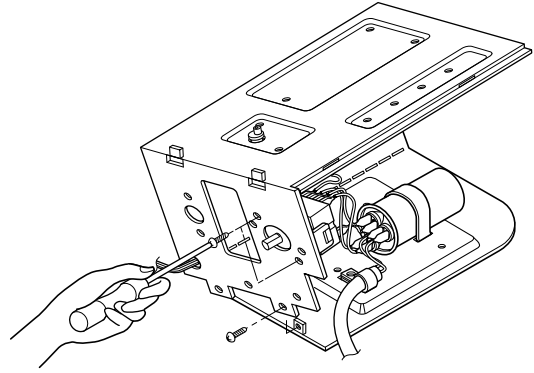

Figure 14
5. Remove the rotary switch. (See Fig. 14)